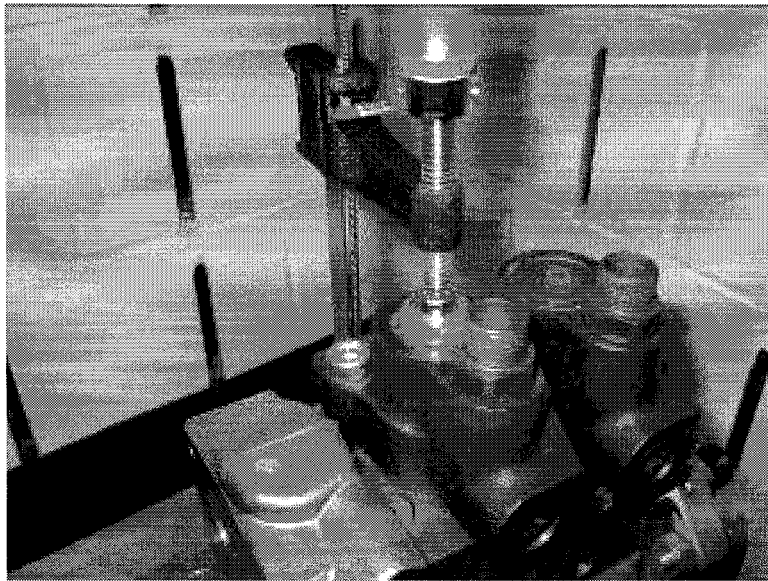

Figure 5 – High Pressure Fuel Pump With C-Clamp On Front Element
9. Use a large C-clamp with a non-marring clamping surface (i.e., plastic or rubber) and apply light pressure onto the top of the front element furthest from the gear to hold the spring pressure from pushing the element out of the pump housing when the bolts are removed. See Figure 5.